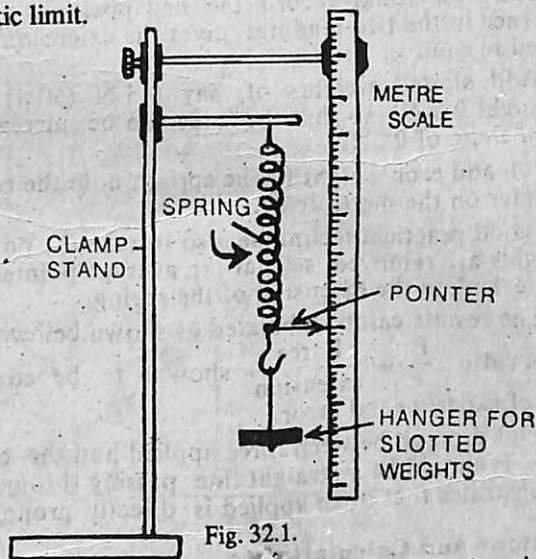

Fig. 32.1.
1. Set up the apparatus as shown in Fig. 32.1